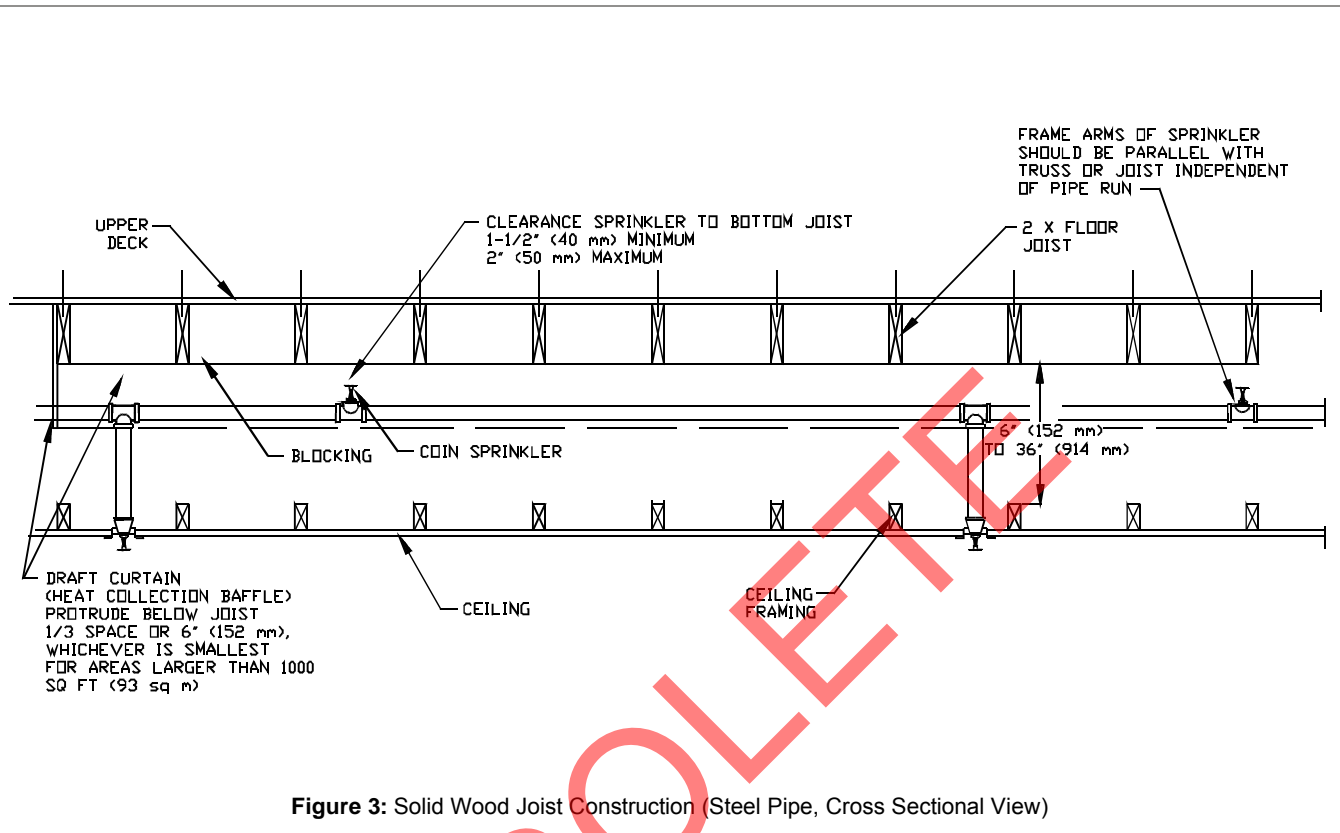

Figure 3: Solid Wood Joist Construction (Steel Pipe, Cross Sectional View)
8. DESIGN GUIDELINES - STEEL PIPE (FIGURES 3, 4 & 5) APPLICATION
For solid wood joist without insulation (Figure 3) or solid or composite wood with non-combustible filled joist (Figure 4):
The remote area for wood truss construction or bar joist construction (Figure 5) or solid wood joist construction (Figure 3) is 1000 sq ft (93 sq m) for wet pipe systems or 1300 sq ft (121 sq m) for dry pipe systems. The remote area for non-combustible insulation filled solid wood joist or wood composite joist construction (Figure 4) is to be calculated per the requirements of NFPA13.